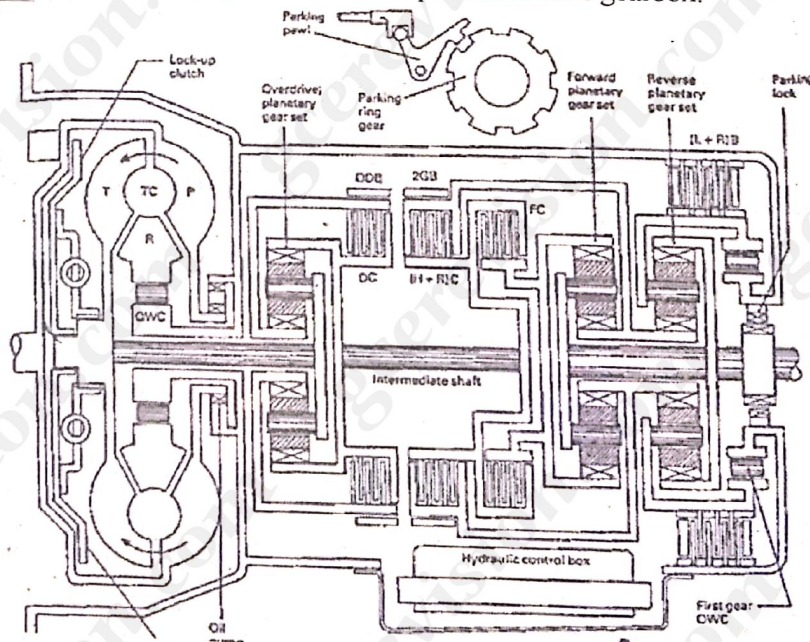

Figure 1
- a. Draw a simple neat sketch of an epicyclic gear train showing the sun gear(S), two planetary gears (P1 and P2), a planet carrier (PC) and the annulus (A). (3marks)
- b. Figure 1 below represents a longitudinally mounted four speed automatic gearbox.